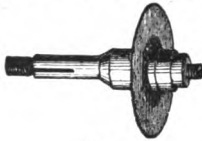
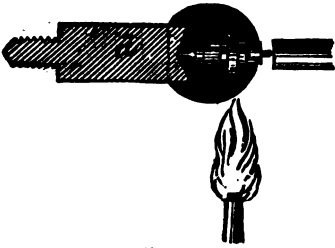

Fig. 38.
Fig. 40.
**Wax Chucks.**—For many operations required in watch jobbing Mr. Ganney recommends fixing the work to the chuck with wax or cement, and no doubt workmen used to this plan get through their work successfully and expeditiously. A number of brass chucks for shellac usually accompany the modern lathe. They are generally screwed into a holder fixed in the lathe spindle. The chuck then projects far enough to avoid heating the lathe when the shellac is melted. Fig. 38 shows the holder with a form of chuck attached which is used for receiving wheels and other flat pieces. It has concentric circles on the face for facility of centring the work. A cylinder, verge, or other fragile piece of work would be almost covered up with shellac; the truth of the back end being ensured by the hollow in the brass chuck (*d* Fig. 40), which should be carefully turned to a point without leaving a tit in the centre; the front end of the work is supported and centred with a peg as shown, while the shellac is